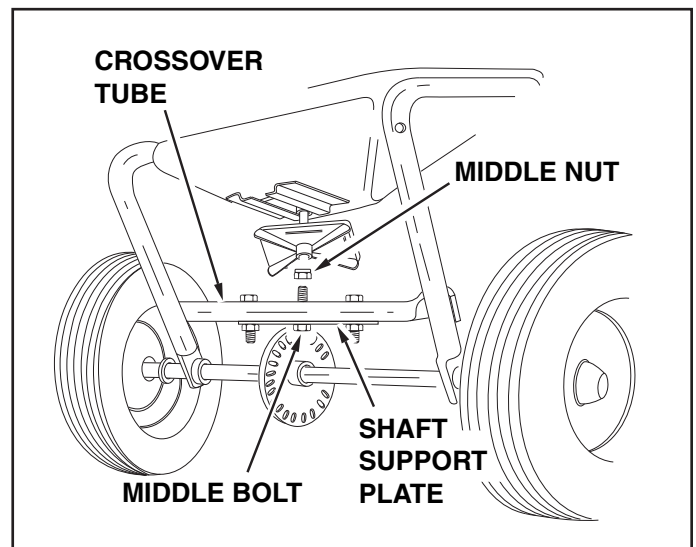

FIGURE 4
8. Remove the nut from the middle bolt in the crossover tube. See figure 4.
- Place the long handle tube onto the crossover tube on the **side opposite** from the shaft support plate. Fasten with the bolt, washer and nut removed in the previous step. See figures 4 and 5. **Do not tighten at this time.**